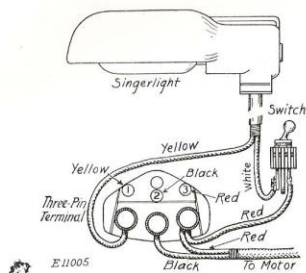

FIG. 2. THREE-PIN TERMINAL AND SINGERLIGHT WIRING DIAGRAM
Motor Leads—Fasten the lead with the **red** tracer thread to the **red** pin, No. 3, and fasten the solid **black** motor lead to the **middle** pin, No. 2, as illustrated in Fig. 2.
Singerlight Leads—Fasten the lead with the **yellow** tracer thread to the **yellow** pin, No. 1, and fasten the lead with the **red** tracer thread to the **red** pin, No. 3. This red lead connects terminal and Singerlight switch. A white wire connects Singerlight switch and Singerlight, as shown in Fig. 2.
(SEE FIG. 2—WIRING DIAGRAM)
3. Loose or broken connections. See that the two insulated thumb nuts of the three-pin terminal, marked 1 and 3, respectively, Fig. 2, page 4, which fasten the Singerlight wires to the terminal posts, are firmly tightened.
(See Fig. 2—Wiring Diagram)